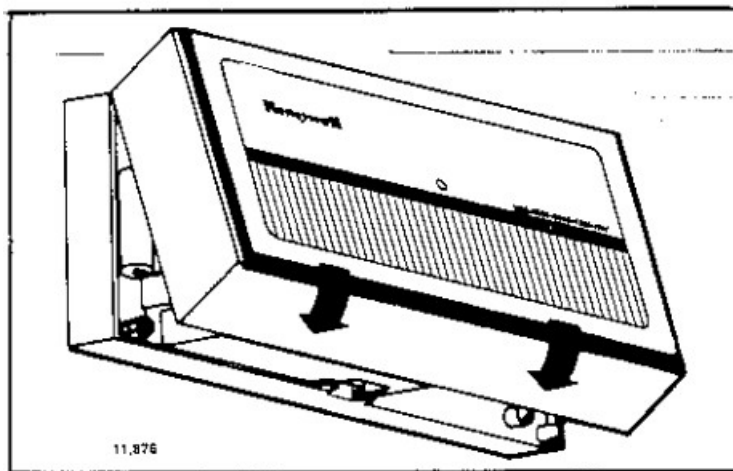

Fig. 9—Attach cover.
- Place the two tabs on upper edge of Cover into mounting slots in thermostat base (Fig. 9).